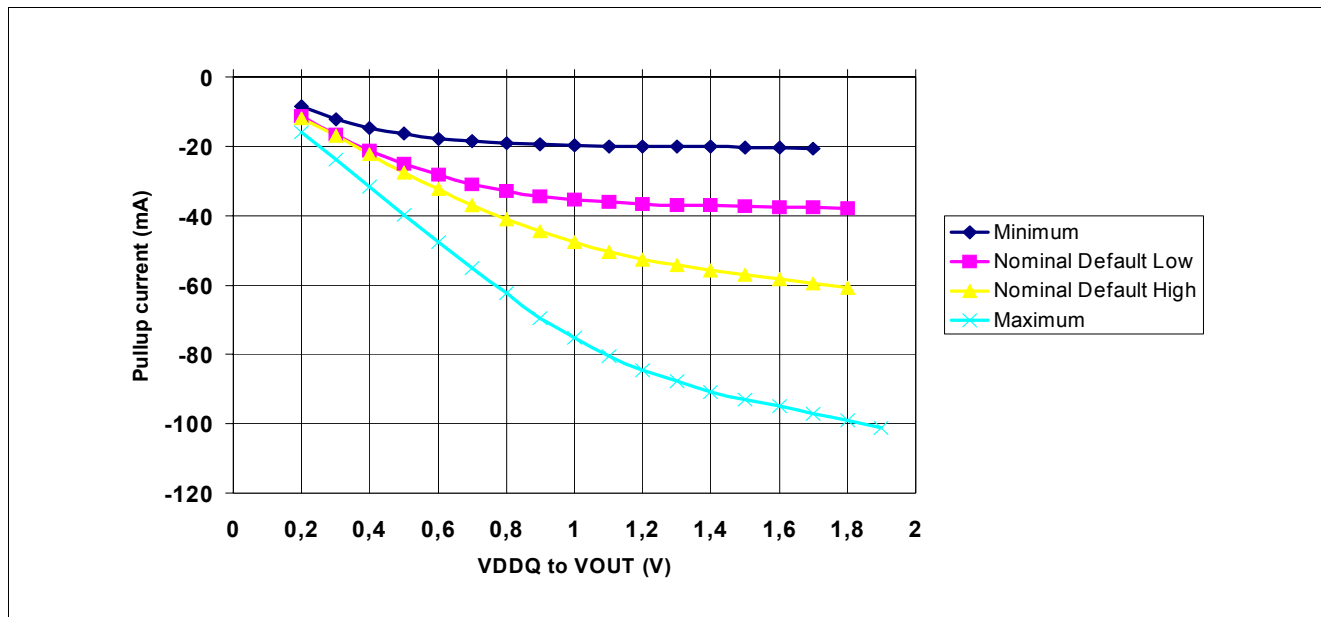
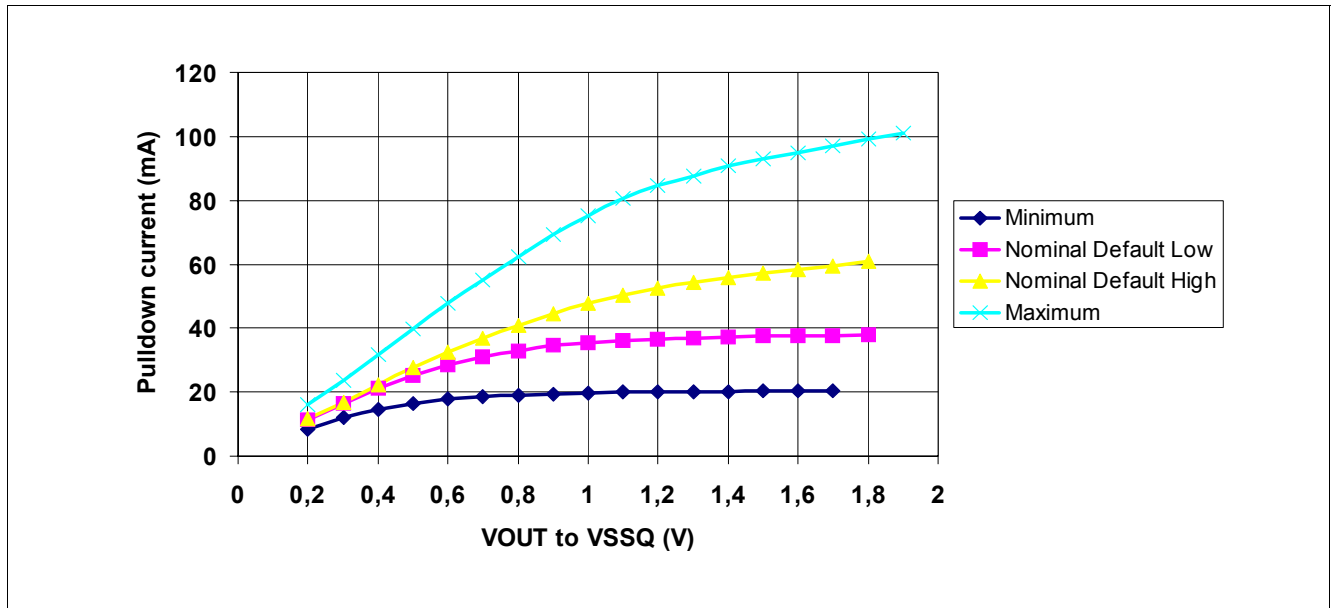

Figure 65 Full Strength Default Pull-up Driver Diagram
Figure 66 Full Strength Default Pull-down Driver Diagram
DDR2 SDRAM output driver characteristics are defined for full strength default operation as selected by the EMRS(1) bits A[9:7] = '111'. **Figure 65** and **Figure 66**